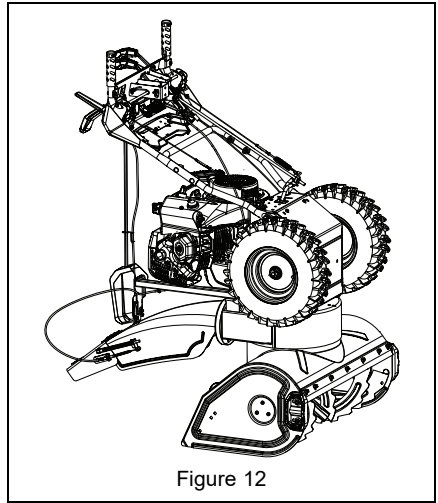

Figure 12
See Figure 12.
1. Place unit in service position (see Figure 12).